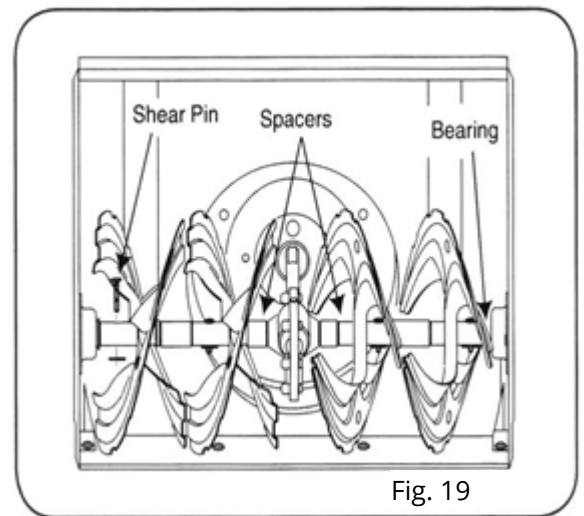

Fig. 19
- The auger is attached to the spiral shaft with two shear pins and cotter pins. If the auger should hit a foreign object or ice, the snow thrower is designed so that the bolts break. See Figure 19.